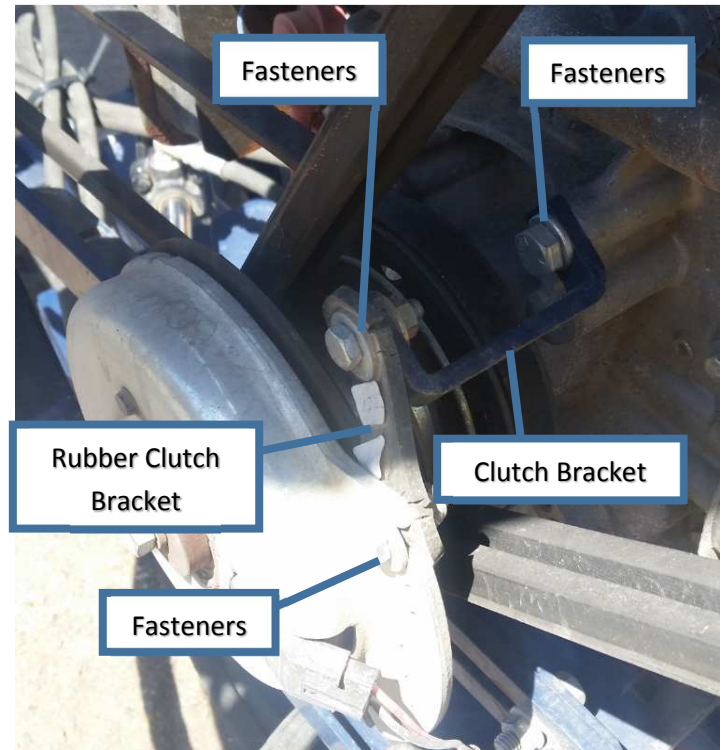

Figure 1
- Remove Fasteners, Clutch Bracket PN 1300012910 and Rubber Clutch Bracket PN 1300012922 as shown in Figure 1